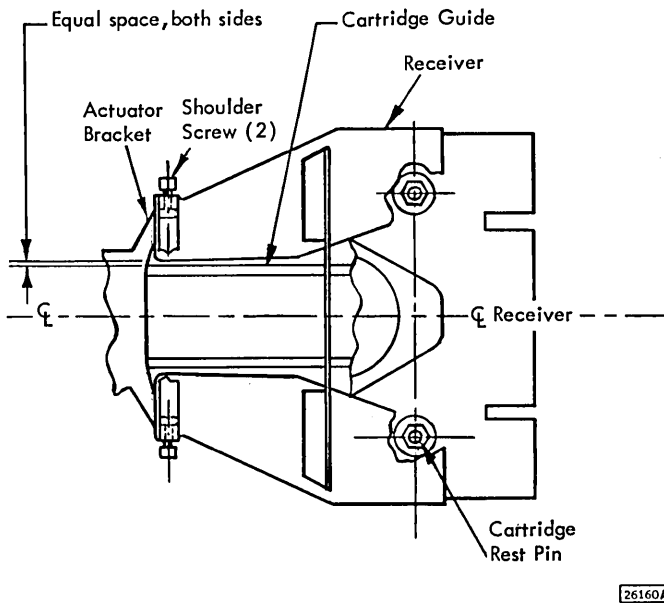

Figure 4-9. Cartridge Receiver Adjustment
4.18.2 Cartridge Receiver Adjustment (Figure 4-9)*
3. Tighten the two shoulder screws until they just contact surfaces of the receiver. At the same time ensure that an equal space exists between front of receiver and cartridge guide. This will secure the adjustment. (See Figure 4-9.)